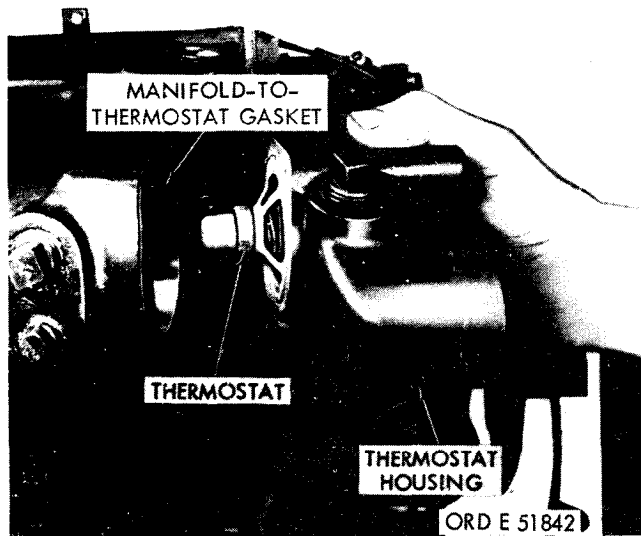

Figure 2-137. Removing thermostat housing and thermostat—multifuel models.
- (4) Loosen the two clamps securing the thermostat housing-to-water pump hose (fig. 2-137).
- (5) Remove the thermostat housing assembly with the thermostat installed.
- (6) Remove and discard the intake manifold-to-thermostat housing gasket.
- (7) Remove the thermostat from the thermostat housing assembly (fig. 2-137).
- (3) Tighten the clamps to secure the thermostat housing-to-water pump hose (fig. 2-137).